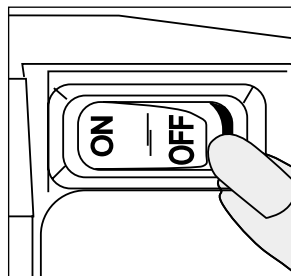

Figure 2
3. Make sure the power switch is in the "Off" position (**Fig. 2**). Unwrap power cord and plug power cord into an appropriate wall outlet (refer to *Specifications*). Plug models 5650H & 4650D into a grounded wall outlet (refer to *Grounding Instructions*).